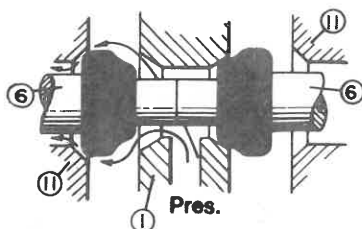

Fig. 3A
SEAT ADJUSTMENT - FIGS. 3A - 3B
Be sure Seat (11) is installed to "stop". If not fully installed, air will leak around poppet (Fig. 3A). Properly installed, both poppets will seal in both directions. (Fig. 3B)